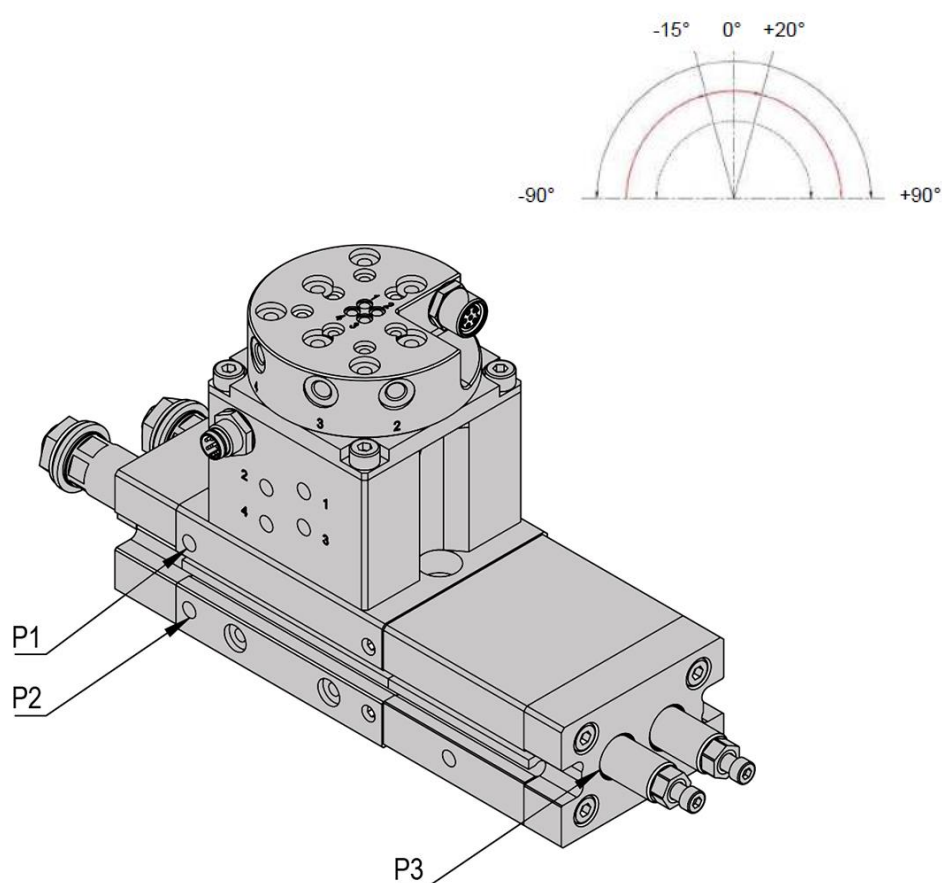

Fig. 22 Positions (example illustration)
2. Loosen the clamping screw of the stop sleeve (Fig. 22, 5).
3. Turn the hexagon of the stop sleeve (Fig. 22, 4) until the end position is correctly adjusted.
5. Turn the hexagon of the stop sleeve (Fig. 22, 4) until the desired end position is reached.
6. Tighten the clamping of the stop sleeves with the clamping screw (Fig. 22, 5).
1. Loosen the hexagon nut (Fig. 22, 2) on the shock absorber.
2. Screw in or out both shock absorbers (Fig. 22, 1) with the small hexagon: